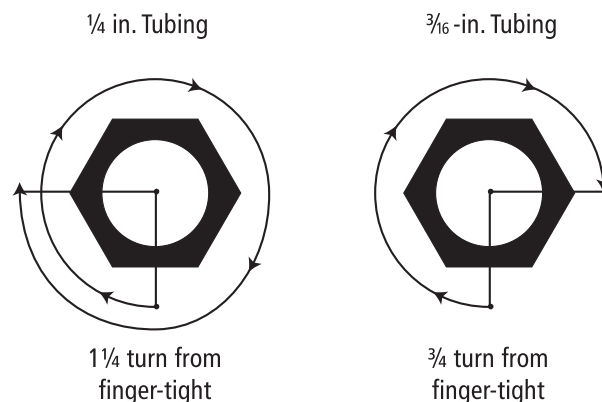

Figure 5-2: Compression Fitting Make-up
5. **Always turn the tube nut the prescribed amount.** With the tube against the tube stop in the fitting body, tighten the tube nut finger-tight (Figure 5-2). For $\frac{1}{4}$ -in. diameter tubing, tighten the nut an additional $1\frac{1}{4}$ turns from finger-tight with a wrench. For $\frac{3}{16}$ -in. diameter tubing, tighten the nut an additional $\frac{3}{4}$ turn from finger-tight with a wrench.